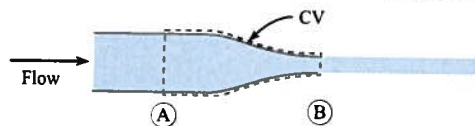

FIGURE 6.14
Nozzles are flow devices used to accelerate a fluid stream by reducing the cross-sectional area of the flow (Fig. 6.14). Problems in this category involve analysis of the nozzle itself, not analysis of the free jet.
- **Tip 1.** Let each momentum flow equal $\dot{m}v$. For the nozzle in Fig. 6.14, the momentum inflow is $\dot{m}v_A$ and the outflow is $\dot{m}v_B$.
- **Tip 2.** Include a pressure force where the nozzle connects to a pipe. For the nozzle in Fig. 6.14, include a pressure force of magnitude $p_A A_A$ on the force diagram. This pressure force, like all pressure forces, is compressive.
- **Tip 5.** When the CS cuts through a support structure (e.g., a pipe wall, a flange), represent the associated force on the force diagram. For the nozzle shown in Fig. 6.14, add a force F_{Ax} and F_{Ay} to the force diagram.